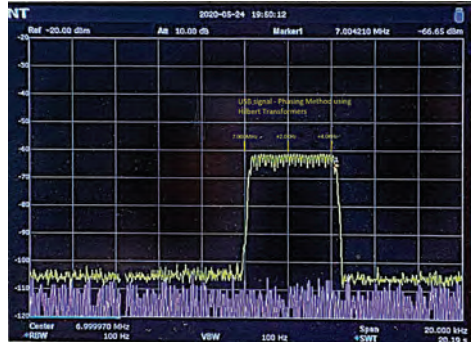

Figure 3. Frequency response of USB Exciter input to the Power Amplifier
- **Filters.** There is a variety of DSP filters available and almost all have skirts that look like cliffs. For example, Figure 3 shows the frequency response of the DSP filters that shape the Exciter input to the RF Power Amplifier at 40M. Note the very steep filter skirts at 7.0003 MHz and 7.0042MHz.